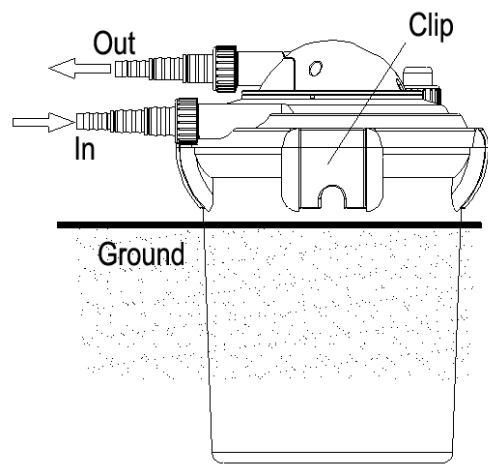

Figure 1
1. Choose a suitable place to install the filter. You can partially bury the bio-filter while keeping it in an upright and level position. The filter can be buried in the ground up to the filter clips. (See figure 1)